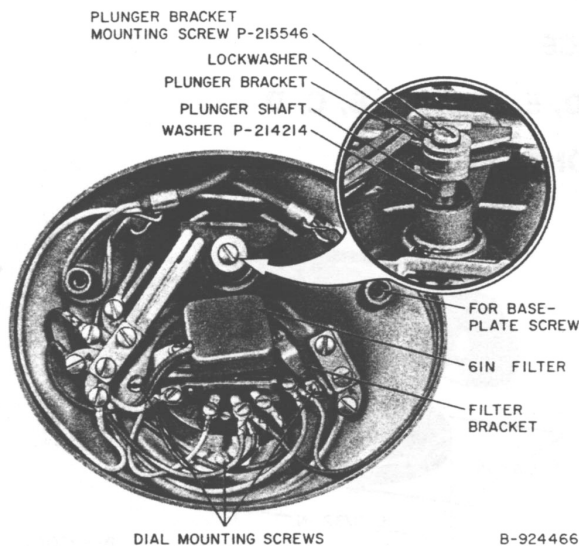

Fig. 3—Assembly of Filter on D-Type Handset Mounting (Dial)
**2.03** When required, the 61N filter is used with the D-type handset mounting. When mounting a filter in a D-type handset mounting that is equipped with a 6-type dial, the dust cover must be removed from the dial and left off (Fig. 3).